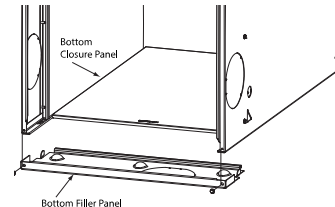

Fig. 9 – Removing Bottom Closure Panel
1. Tilt or raise furnace and remove 2 screws holding bottom filler panel, see Fig. 9.
1. Tilt or raise furnace and remove two screws holding bottom filler panel, see Fig. 9.